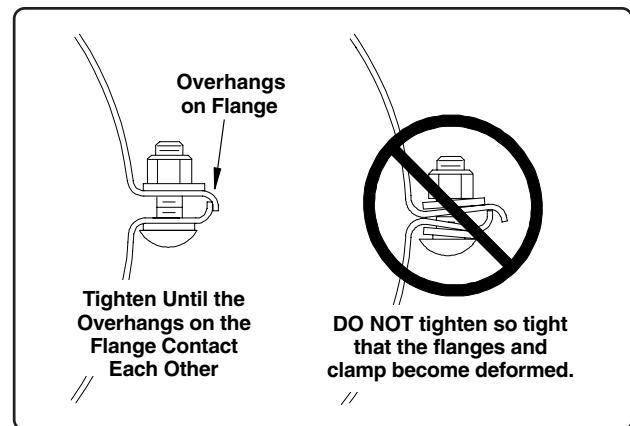

Fig. 25
**IMPORTANT!** The overhangs on the flanges are meant to be tight against each other, but **Do Not** tighten so tight that the flanges are crushed and become deformed (See Fig. 25). **NOTE:** If it is impossible to get the connecting band tight on the auger tube without overly deforming the clamp, a new connecting band may be necessary.